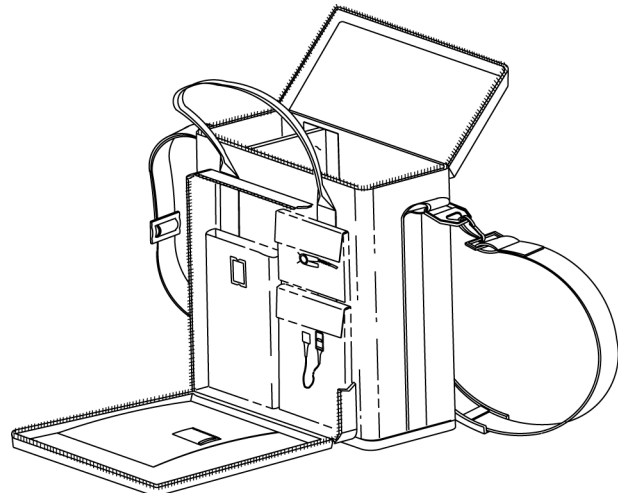

Figure 10: Soft-Sided Carrying Case
- Soft-Sided Carrying Case. See Figure 10 on page 124.
An optional soft-sided carrying case is available from Nellcor for the N-600x. See Figure 10. The padded carrying case protects the N-600x while transporting the monitor. The carrying case